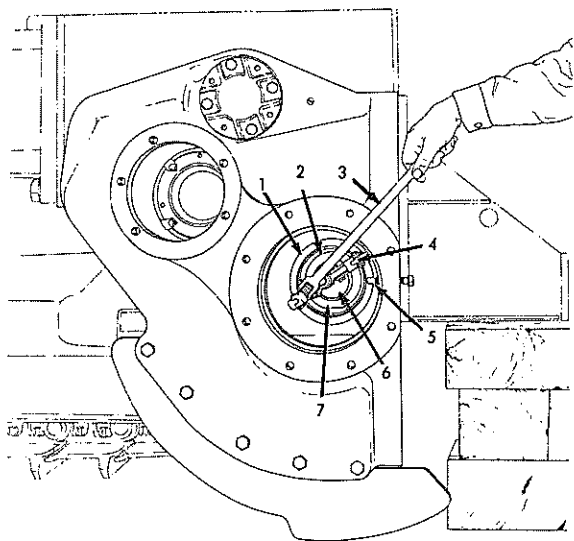

Fig. 7 Removing Sprocket Shaft Inner Bearing Cage (T-41462)
11. If necessary to remove sprocket shaft inner bearing cage and bearing cup, back bearing cage setscrew Fig. 7 (5) out until it clears slot in inner bearing cage. Use tools similar to those in Fig. 7, pull inner bearing cage; use suitable puller tools to remove bearing cup from inner bearing cage. The inner bearing cover Fig. 1 (29) may be removed from housing, if necessary, by driving bearing cover in toward final drive compartment after inner bearing cage has been removed.